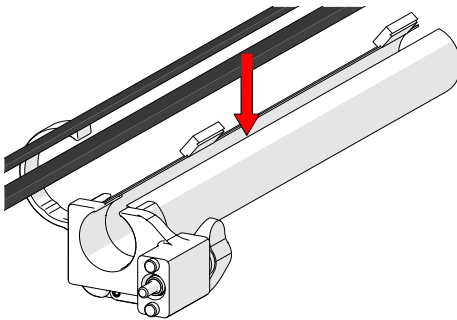

Fig. 281 - Insert cables and hoses
1. Open the cable management tube. Begin at the clamp end and start placing the cabling in the tube (Fig. 281).